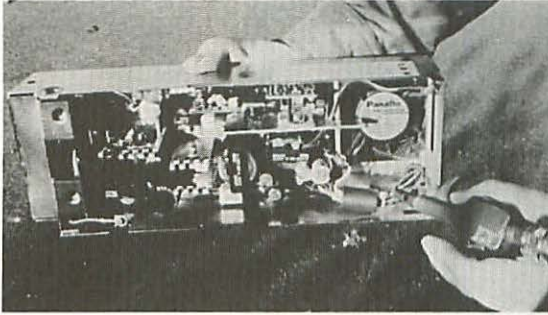

Figure 4-15 Dust inside the power supply can be removed with compressed air.
9. If you've had your Mac for very long, the power supply and the CPU cabinet may be packed with dust. Dust should be removed with a hairdryer, as shown in Figure 4-15. It's best to do this outside. Cleaning the cabinets can make a sizeable dust cloud.